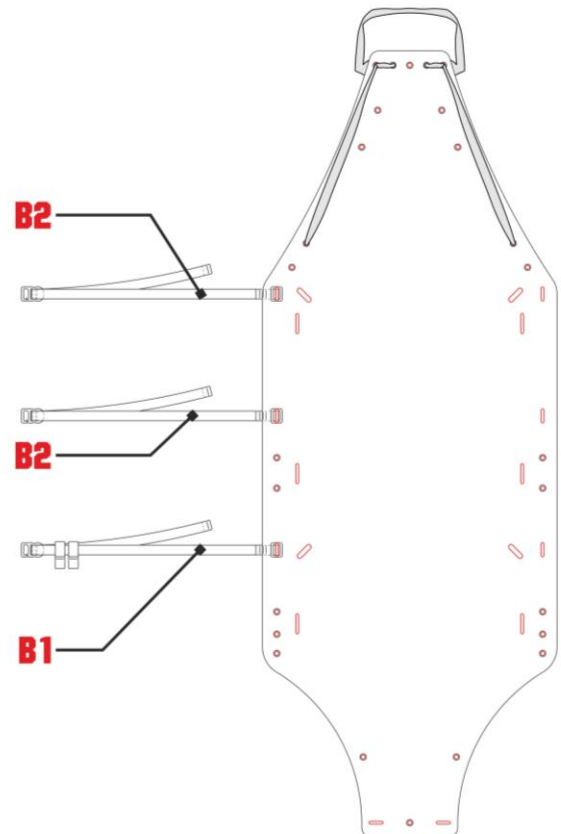

Fig. 10
- b) insert the tape (B1 and B2) into the slots A1 of the support surface (fig. 10),